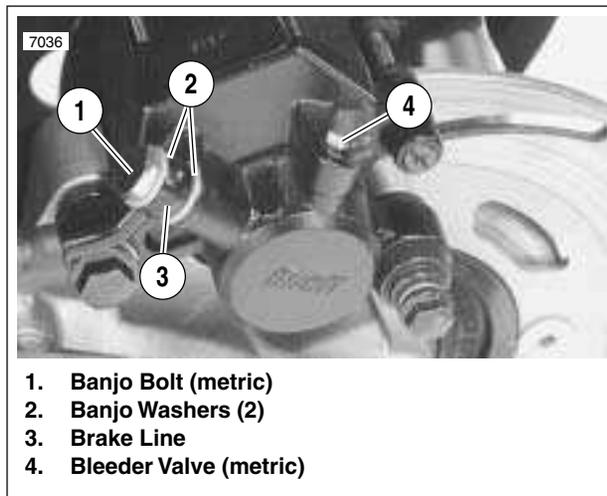

Figure 2-49. Rear Brake Caliper Banjo Bolt
10. See Figure 2-49. Remove rear brake caliper banjo bolt and two banjo washers. Discard banjo washers.